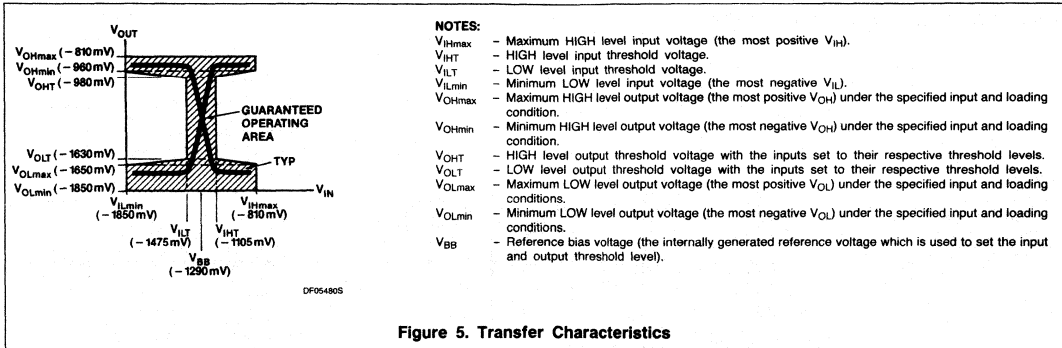

Figure 5. Transfer Characteristics
- The specified limits shown in the DC Characteristics can be met only after thermal equilibrium has been established. Thermal equilibrium is established by applying power for at least 2 minutes while maintaining transverse air flow of 2.5 meters/s (500 linear feet/min) over the device either mounted in the test socket or on the printed circuit board. Test voltage values are given in the DC Operating Conditions and defined in Figure 5.